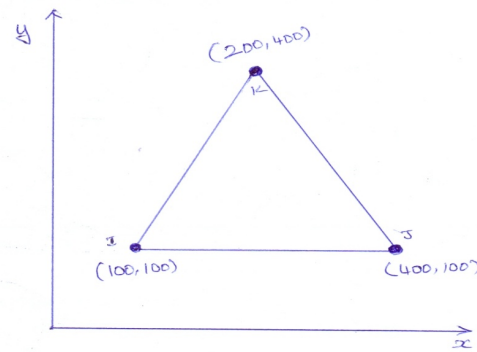

Figure 3
- (b) For a constant strain triangular element shown in Figure 3, assemble strain-displacement matrix. Take $t = 20\text{mm}$ and $E = 200 \times 10^5 \text{N/mm}^2$. All dimensions are in mm [BL: Apply| CO: 3|Marks: 7]